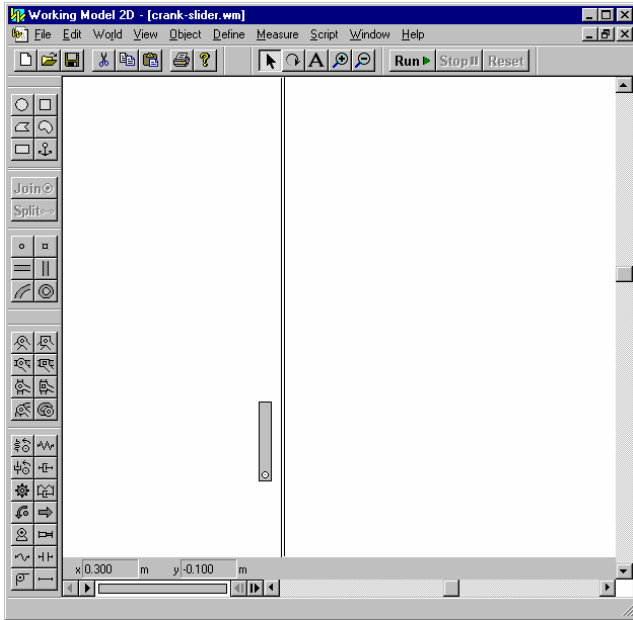

Figure 15. Crank Slider Example. Steps 1-2.
1. Place a slot on the background, Figure 15, using the slot element .
2. Draw a small link and use a pin joint  to anchor it to the background, Figure 15.